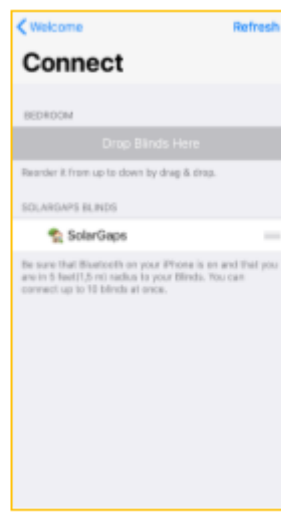

Figure 6
**10.2.3.3.** As soon as the BLINDS appear on the screen, swipe them to **Drop Blinds Here** (Fig. 6).